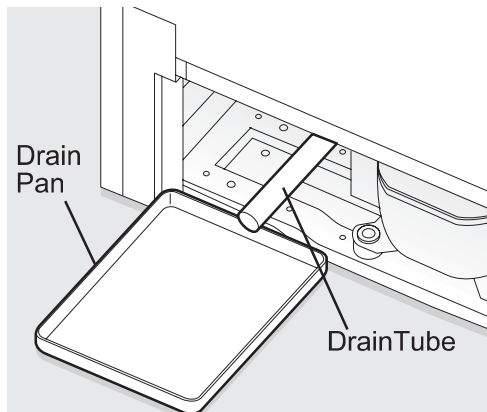
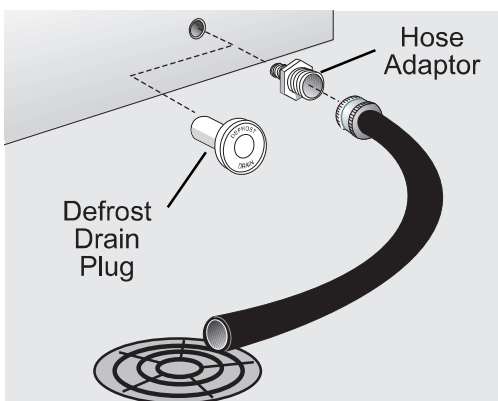
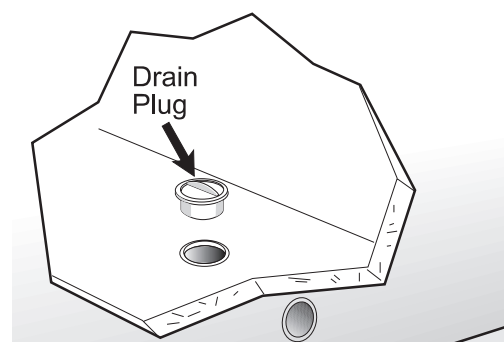

Figure 2
Figure 3
Figure 4
- **On chest models with a defrost drain,** place a shallow pan beneath the drain outlet (Figure 2). A ½ inch garden hose adapter can be used to drain the freezer directly into a floor drain (Figure 3). If your model is not equipped with an adapter, one can be purchased at most hardware stores. Pull out the drain plug inside the freezer, and pull off the outside defrost drain plug (Figure 4).